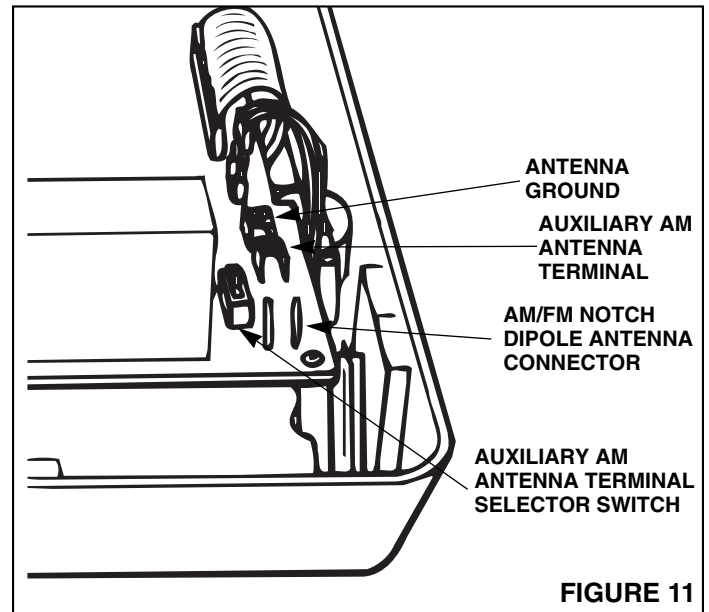

FIGURE 11
1. **Refer to Figure 11.** Move the the auxiliary AM antenna selector switch to the AM position.